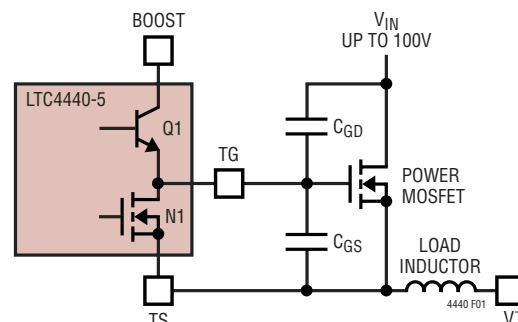

Figure 1. Capacitance Seen by TG During Switching
A simplified version of the LTC4440-5's output stage is shown in Figure 1. The pull-down device is an N-channel MOSFET (N1) and the pull-up device is an NPN bipolar junction transistor (Q1). The output swings from the lower rail (TS) to within an NPN V_{BE} ($\sim 0.7V$) of the positive rail (BOOST). This large voltage swing is important in driving external power MOSFETs, whose $R_{DS(ON)}$ is inversely proportional to its gate overdrive voltage ($V_{GS} - V_{TH}$).